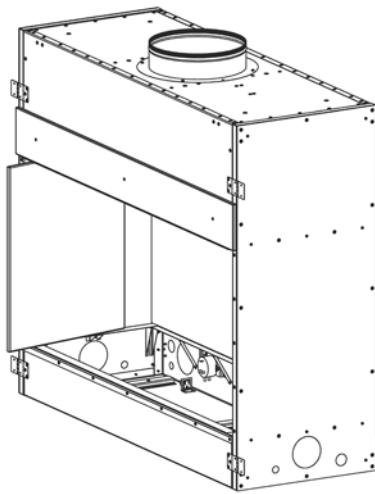
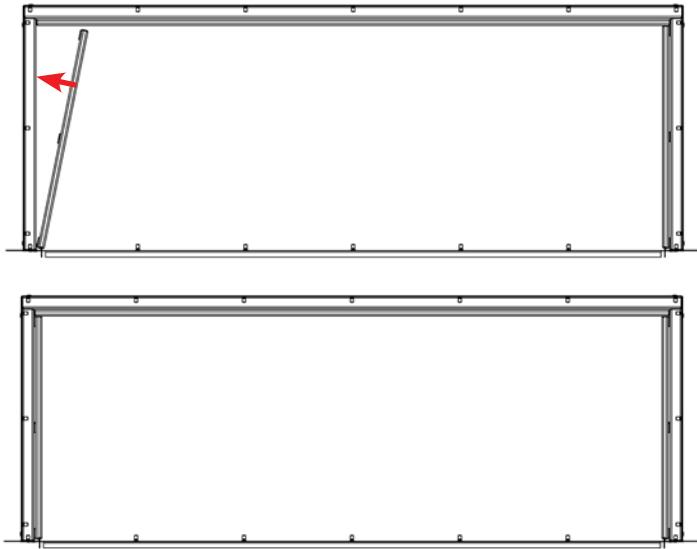

Figure 38 - Side Panel Installation
Figure 39 - Side Panel - Top View
2. Insert the side panel, whether right or left, through the corresponding side wall, as close to the internal walls of the fireplace as possible (see figure 38). Rotate it slightly so that the front edge will sit on the viewing area. Then pivot the panel to push the short edge (close back wall) to the side wall (see figure 39). Repeat the same steps for the remaining side.